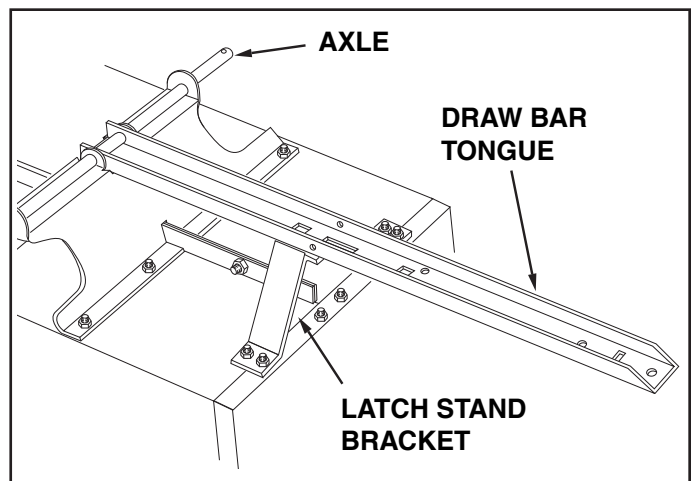

FIGURE 7
14. Lower the cart to rest upside down on its top flange with the wheel support facing up. See figure 7.
15. Lay the drawbar tongue (open side facing up) onto the Wheel Support and the Latch Stand Bracket. Slide the axle through the wheel support and the tongue. See figure 7.